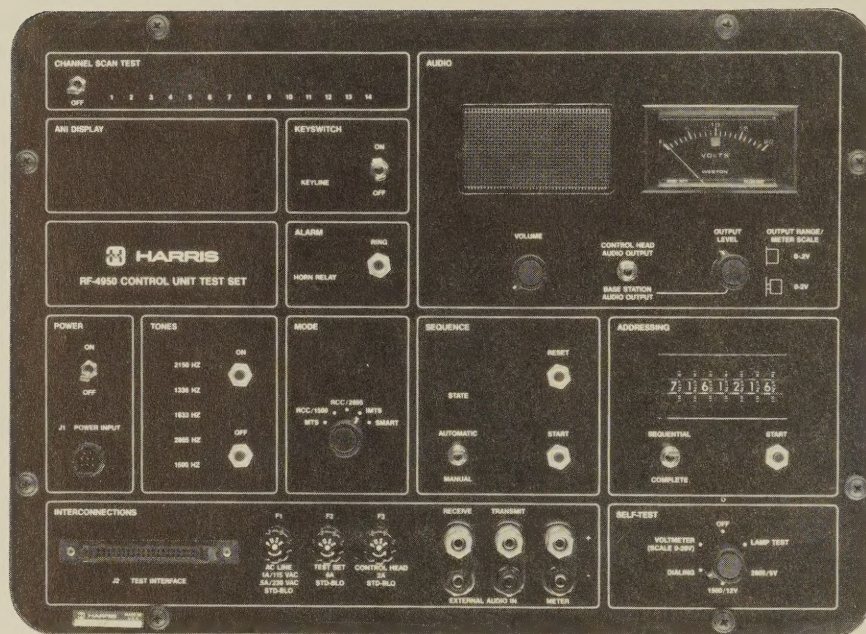

Figure 2-1. Front Panel Controls and Indicators
2.01 A functional description and physical location of the controls and indicators on the front panel are listed in table 2-1 and shown in figure 2-1.